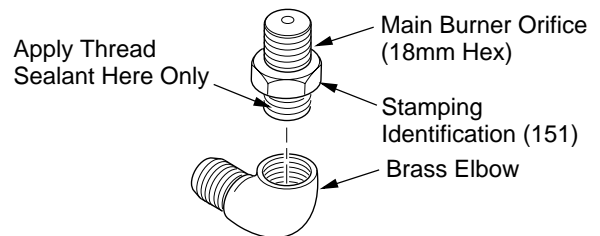

Figure 13 - Removing/Replacing Main Burner Orifice
4. Remove existing main burner orifice from brass elbow and replace with main burner orifice supplied with conversion kit. **Note:** The new main burner orifice will have the number 151 stamped on it for identification purposes. Apply a small amount of thread sealant to the main burner orifice before tightening (see Figure 13). Sealant must be resistant to propane/LP gas.